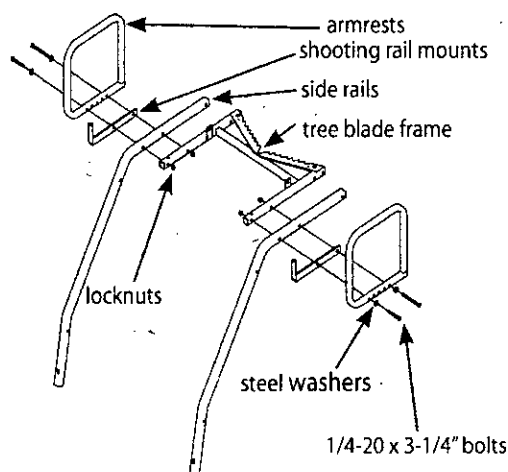

Figure 2A
2. Attach the tree frame (1ML34) to the inside of side rails, and the (2) shooting rail mounts (112ML43) and (2) armrests (LFX5) to the outside of side rails using (4) provided 1/4-20 x 3-1/4" bolts, locknuts and steel washers. **SEE FIGURE 2A.**